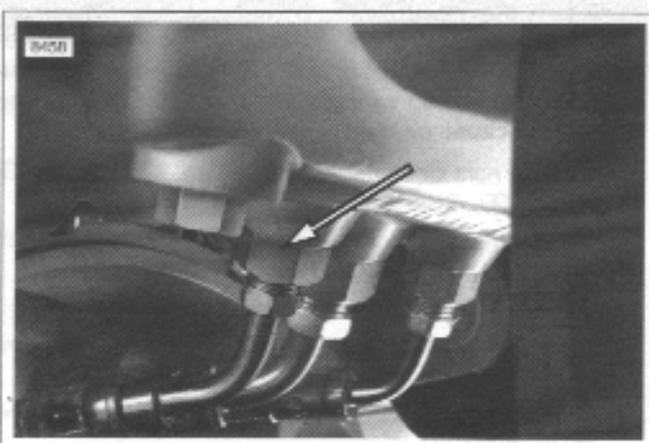

Figure 2-77. Oil Line Fittings
1. See Figure 2-77. Remove oil line fittings from swingarm. See Table 2-12.
3. See Figure 2-77. Install oil line fittings on swingarm. Tighten to 29-31 ft-lbs (39-42 Nm). See 3.9 OIL HOSE ROUTING AND OIL RESERVOIR.